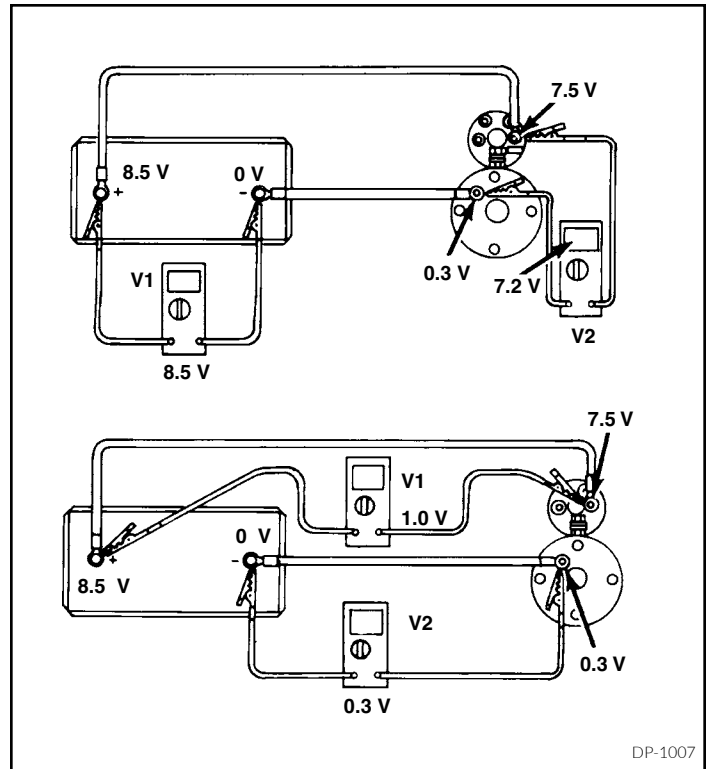

FIGURE 1-2. Voltmeter Readings with Current Flow
2. Figure 1-2 shows the voltmeter being used with current flow (starter pulling 500 amps).
The V1 reading (See Figure 1-2) means that with 500 amps flowing through the positive cable, there is a 1.0 volt drop in that cable. There must be current flow in order to produce a voltage drop. The V2 reading (See Figure 1-2) of 0.3 volt means that with 500 amps flowing through the negative cable, there is a 0.3 volt drop in the negative cable.